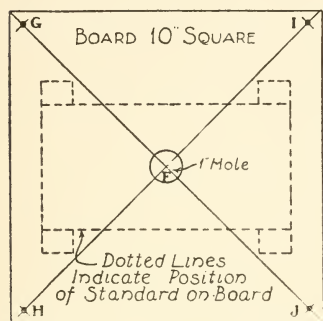
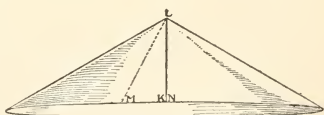

FIG. 140. — Plan of Top of Standard for Merry-go-round.
FIG. 142. — The Tent ready to be Fastened upon a Tent-Pole.
**To Make the Standard** for the merry-go-round, cut four strips of wood 8 inches long, and fasten one to each corner of the cigar box, turning the bottom side of the box up; then cut a piece of  $\frac{1}{2}$ -inch board 10 inches square, locate its center *F* by drawing diagonal lines from corner to corner as shown in Fig. 140, bore a 1-inch hole through it at this point for spool *D* (Fig. 136), and then nail the box to the center of the board as shown in Fig. 140.
tening the tent upon its tent-poles. Cut out the tent along the outer circle, and from it cut a triangular piece about the size of that included between lines *KL* and *ML* in the diagram. Cover the under edge of *KL* and the upper edge of *ML* with glue, lap *KL* over to about *NL*, and rub down the edges with a cloth to make as neat a joint between the pieces as possible (Fig. 142). Bore a hole through each corner of the standard top (*G*, *H*, *I*, and *J*, Fig. 140), then cut four sticks 7 inches long, sandpaper them until smooth, and glue them into these holes for